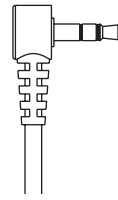
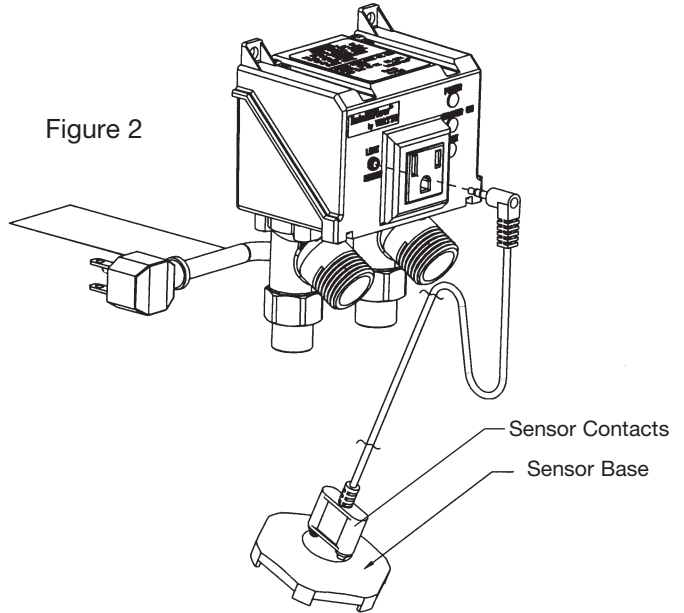

Figure 1
Figure 2
1. Insert the leak sensor contacts into the two holes on the top of the sensor base until the plug comes to a stop (Figure 2).
3. Insert the leak sensor plug (Figure 1) into the leak sensor receptacle on front panel (Figure 2).